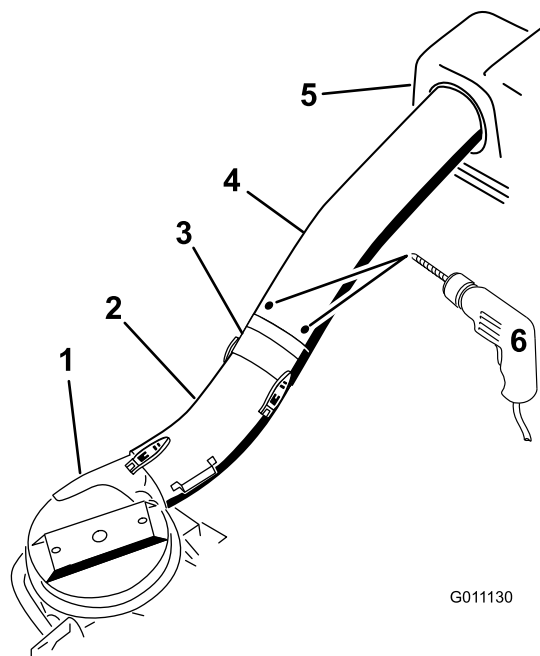

Figure 27
11. Using the 3 holes or indentations in the upper tube as a template, drill 3 holes (7/32 inch diameter) where the upper and middle tubes join together (Figure 27).